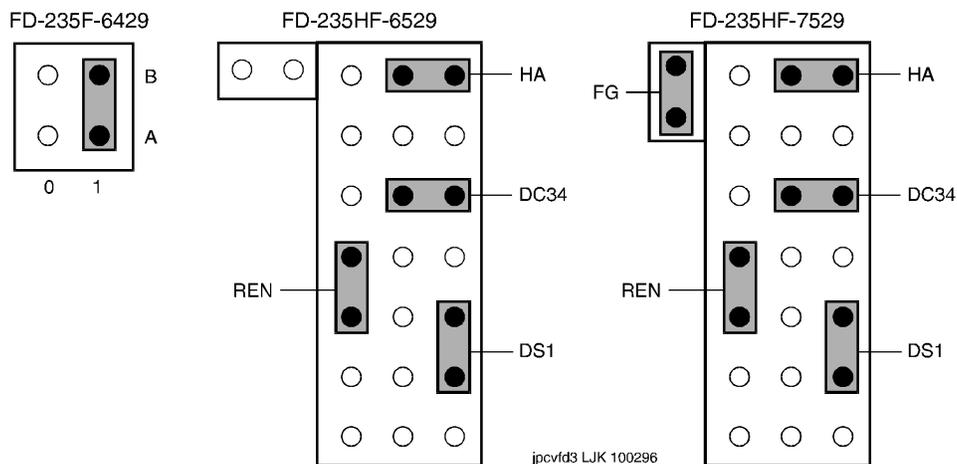
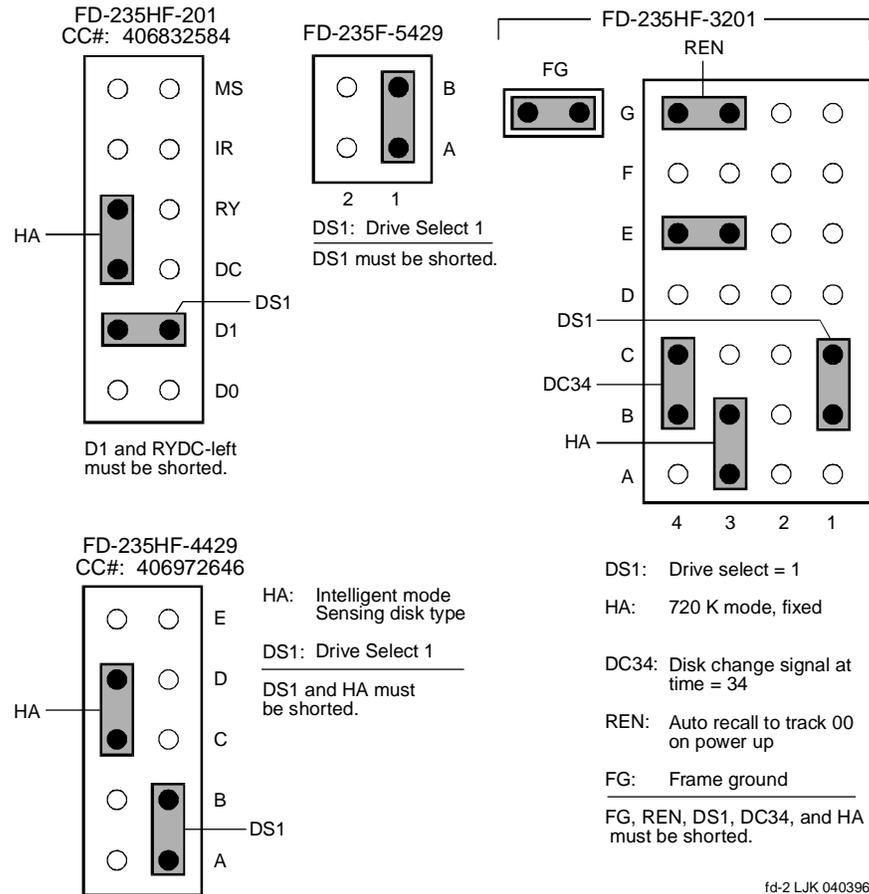

Figure 7-11. Diskette Drive Jumper Connections (6429, 6529, and 7529)
Figure 7-12. Diskette Drive Jumper Connections (201, 3201, 4429, and 5429)
3. Verify that the jumpers are set as shown in Figure 7-11 and Figure 7-12.